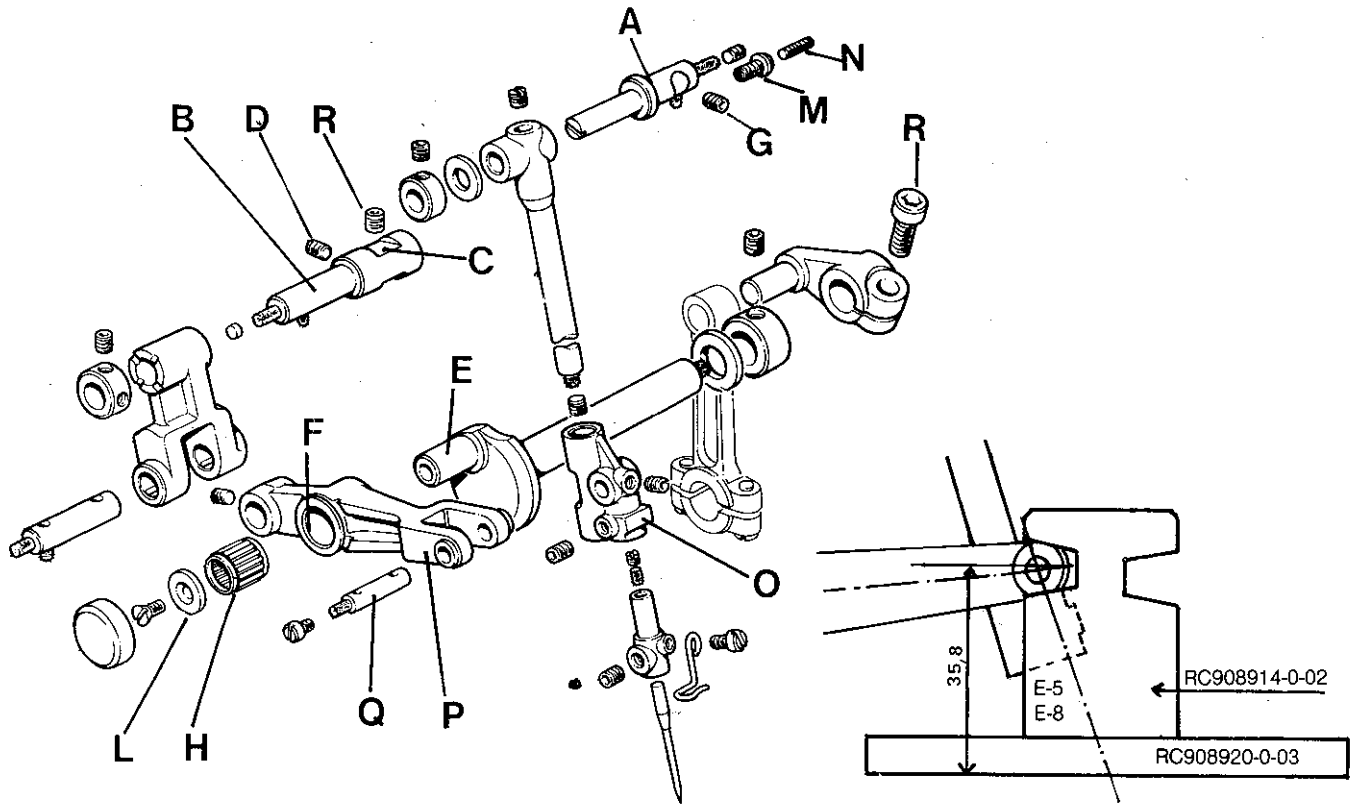
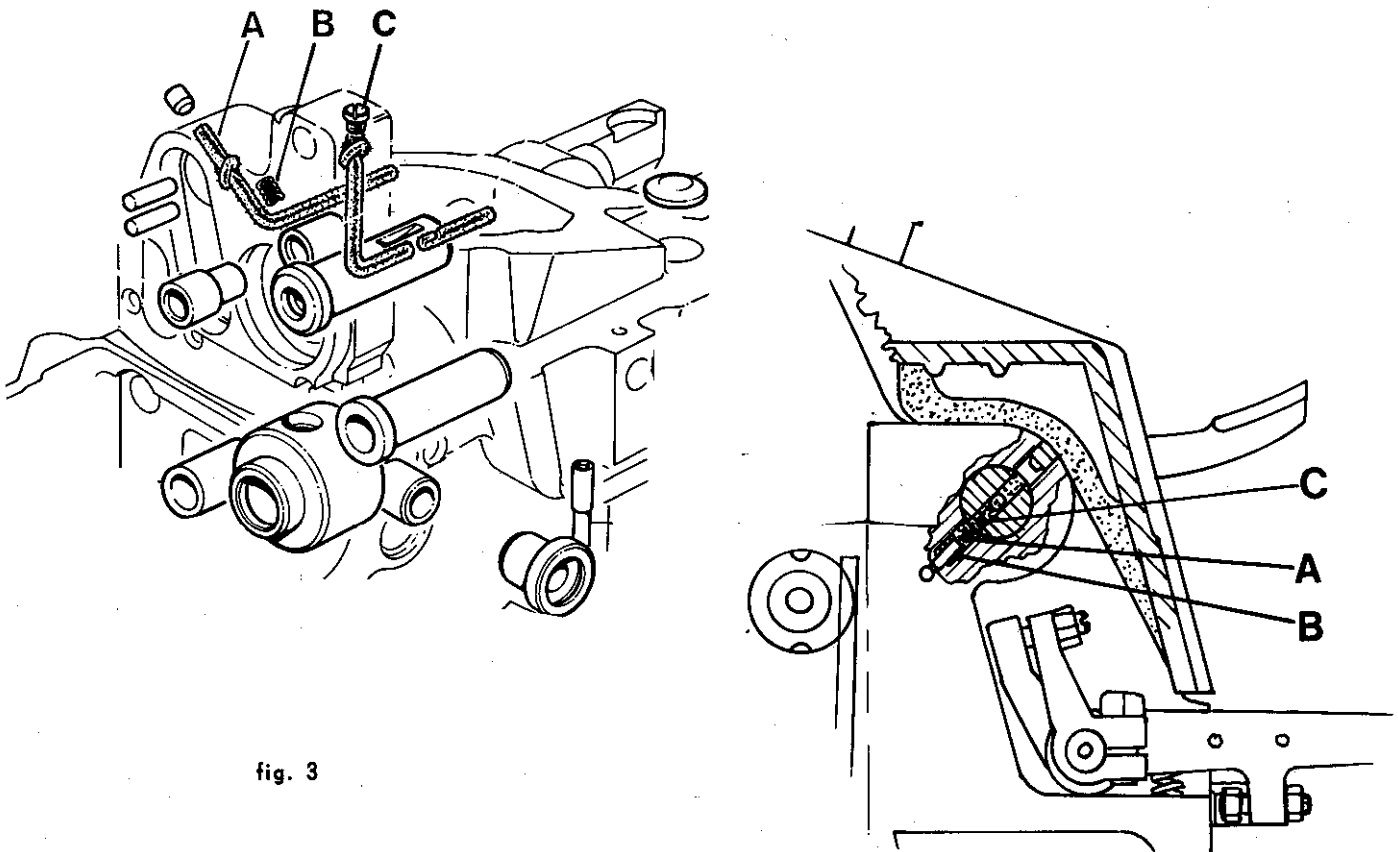
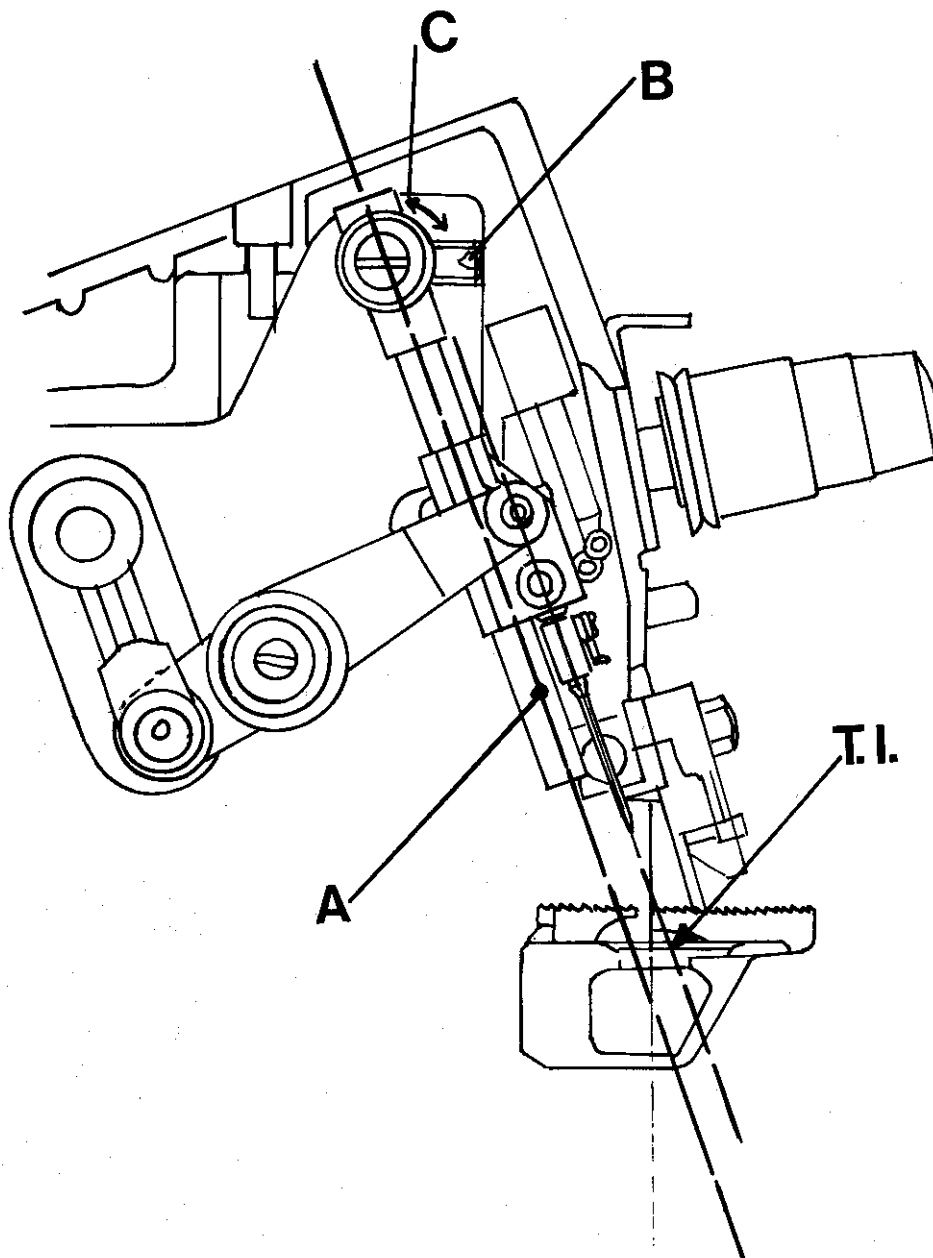

fig.2
fig. 3
fig.4
## INSTRUCTIONS FOR SETTING ON AND ADJUSTING THE NEEDLE CONTROL MECHANISM (fig. 2)
- Arrange the needle control mechanism assembly (fig. 2) with pins A and B positioned as follows:
- a) bar support eccentric pin A with milled part turned towards the front of the machine. This positioning serves to orient the eccentricity of the pin towards the top and will permit subsequent insertion of screw C (fig. 3) which, keeping the orientation correct, will limit rotation of the pin to a useful bar-positioning sector.
- b) calibrator support pin B with plane C corresponding to screw D (fig. 2).
- Set pins A and B in their respective holes on the machine head, taking care to insert the button of hand control E (fig. 2) at the same time in the hole in lever F. When inserting calibrator pin B (fig. 2), lubricator wick A (fig. 3) must be pulled from the end inside the machine so that the other end is embedded in the spot-facing, pressing spring B (fig. 3) and thus permitting said pin to pass. Releasing wick A (fig. 3) spring B (fig. 3) extends, giving reliable lubrication contact between wicks A and C inside the pin.
- Center locking screws R - G (fig. 2) of the two pins and insert roller retainer H, taking care to choose the correct tolerance value, which should be that indicated on washer L (fig. 2).
- Tighten screw M (fig. 2) until it is right down on needle bar eccentric support pin A (fig. 2)
- Set the needle clamp slider to the correct height. When the slider is brought to its lowest position there must be a distance of 35.8 mm. (1.13/32") between the axis of pin Q (fig. 2) and the surface of plate RC908920-0-03 (fig. 2-inset). Adjustment is made by turning screw R (fig. 2).
Gauge RC908914-0-02 and plate RC908920-0-03 are used as shown in fig. 2 – inset, are a help in obtaining easy and accurate adjustment.
- Center the needle in the needle plate hole. The operation is made accurate and easy by screw M (fig. 2) which, being right up against the pin, offers the possibility of moving it just by screwing.
- Block screw M by fully tightening grub screw N (fig. 2)
- Center the needle clamp slider O (fig. 2) in the fork of lever P (fig. 2), dividing play equally, by moving pin B (fig. 2).
- Tighten locking screws D – R (fig. 2).
## NEEDLE BAR ALIGNMENT (Fig. 4)
For aligning needle bar A (fig.4) to the needle movement trajectory T.I. (fig.4) special gauge (RC908920-0-03/RC979550-1-00) with dial comparator A (fig.5) is used, point B (fig.5) of which is positioned on the special extension C (fig.5) screwed to the bottom of the needle bar (see illustration). When the needle clamp slider moves from the bottom dead center point to the top dead center point or viceversa, there should be the least possible
Adjusting and checking is done by turning eccentric pin C (fig.4) in one direction or the other. After making sure that C is right up against screw M (fig.2), lock the pin with its screw B (fig.4).
This offers the possibility of orienting the rear needle guard so that the needles are correctly positioned in relation to the two internal planes. (see Fig. 2) Tighten the locking screw, taking care not to alter the height setting.